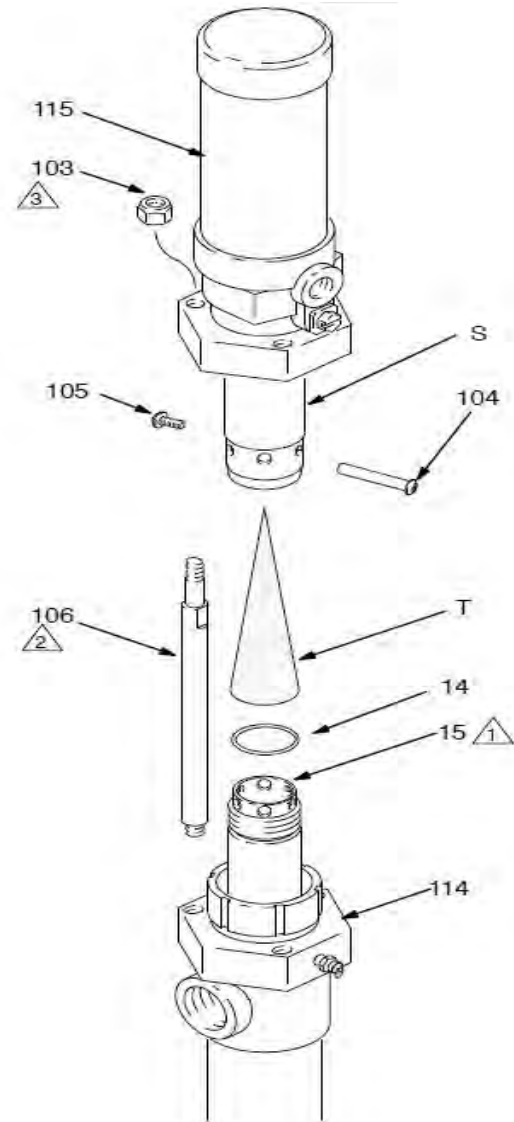

FIG. 6
3. See FIG. 6. Unscrew the tie rod locknuts (103).
4. Unscrew and remove the screw (105) and barrel (104).
5. Raise the air motor (115) away from the displacement pump (114). Unscrew the displacement rod (15) from the air motor connecting rod (S).
1. When reconnecting the air motor, use lithium base grease on the threads of the displacement rod (15). Make sure the o-ring (14) is in place on the rod.
2. Insert the muffler (T) into the air motor connecting rod (S) as shown in FIG. 6.
3. Tighten the displacement rod (15) into the air motor connecting rod hand tight, and install the barrel and screw set (104 and 105).
4. Apply thread sealant to the threads of the tie rods (106). To ensure proper alignment, first thread the tie rod locknuts (106) loosely onto the tie rods, then torque evenly to 15 N•m (8 ft-lb).
**NOTE:** Removing the muffler (T) will increase both pump flow rate and exhaust noise.